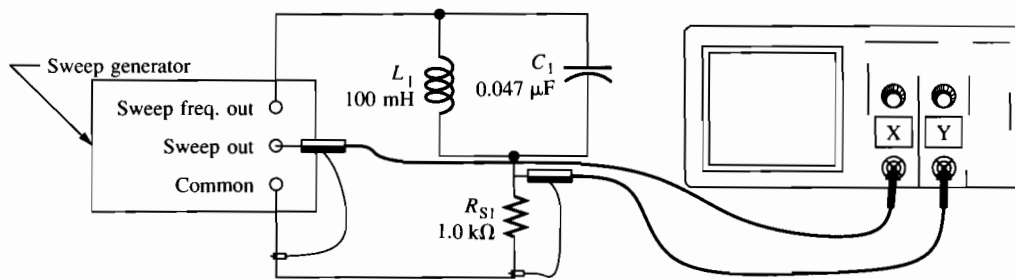

Figure 28–4
5. In the circuit of Figure 28–2(a), assume the inductor is 100 mH with 120 Ω of winding resistance and the capacitor is 0.01 μF . Compute:
The oscilloscope can be used to display the resonant dip in current by connecting a sweep generator to the circuit. This converts the time base on the oscilloscope to a frequency base. The sweep generator produces an FM (frequency modulated) signal, which is connected in place of the signal generator. In addition, the sweep generator has a synchronous sweep output that should be connected to the oscilloscope on the X channel input. The Y channel input is connected across the 1.0 k Ω sense resistor. The oscilloscope is placed in the XY mode. A diagram of the setup is shown in Figure 28–4. Build the circuit shown, determine a method to calibrate the frequency base, and summarize your procedure in a report.